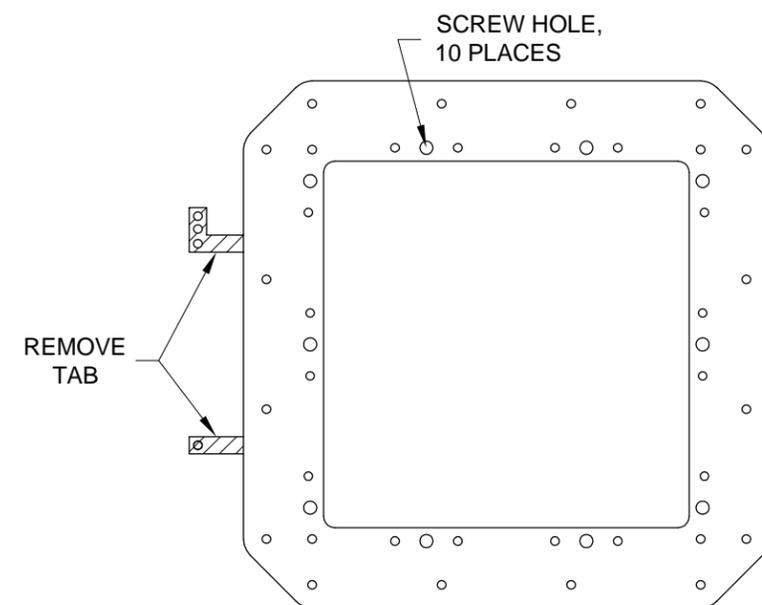

FIGURE 2:
Step 9: Remove the reference tabs shown in Figure 2 from the VA-195C Access Hatch Doubler.
Dimple the screw holes in the access hatch and access hatch doubler for the head of a #6 screw. See Figure 2.
Dimple all the 0.98 [2.5 mm] diameter holes in the access hatch doubler. See Figure 2.
Dimple the .098 [2.5 mm] diameter holes in both W-00017 Mount Brackets. See Figure 2.